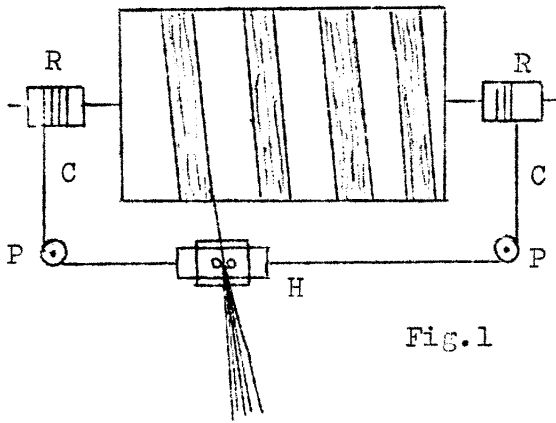
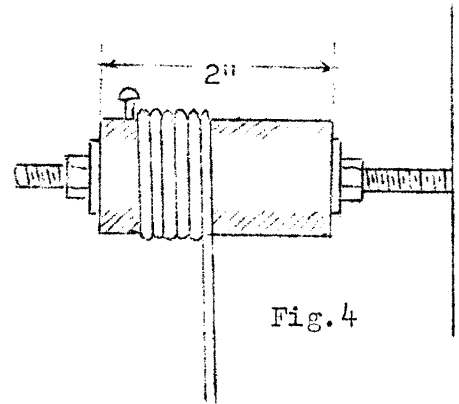

Fig. 1
Fig. 4
In the warping reel described so far, we have already one part which will serve as a support for the "feeding" mechanism. It is the rail "D" (fig.4, page 9). The heck-block will slide on it from one end of the mill to the other, and back. This block (fig.1) is pulled by two cords (C) which go around pulleys (P) placed on each end of the rail. Both cords are wound on wooden cylinders (R) inserted on the bolts which support the rotating frame of the mill in the uprights of the base. This is why these bolts were made 8" long. The cords are wound in opposite directions, so that when the frame turns one way, the heck block is pulled to the right, and when it changes the direction of rotation, the other cord pulls the block to the left.